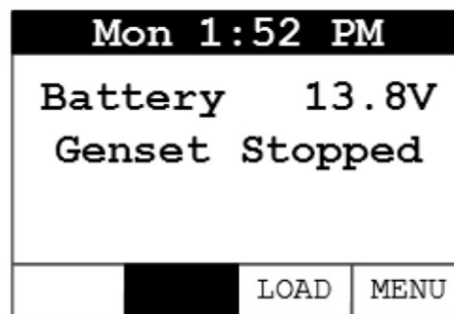

FIGURE 17. GENSET STOPPED
7. Normal operation resumes. See Figure 17.